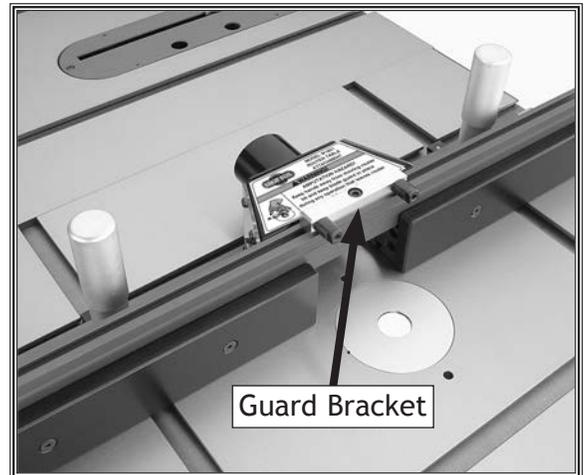

Figure 15. Guard bracket attached to the fence.
12. Slide the attached square nut on the guard bracket into the top fence T-slot, center it with the dust hood and dust port, then tighten the cap screw to secure it in place, as shown in **Figure 15**.